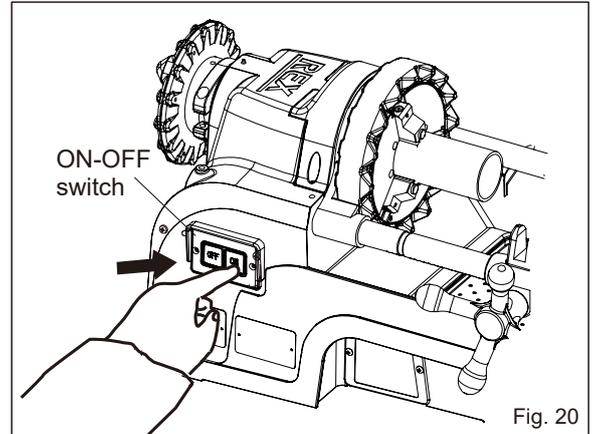
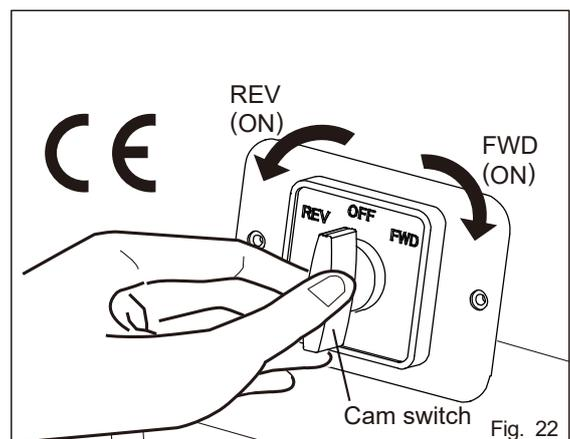

Fig. 20
Fig. 22
Turn on the machine to set the Main shaft in motion. (Fig. 20)
If the Cam switch is placed in the FWD position, the Hammer chuck will rotate in an anticlockwise direction (normal rotation) as seen from the Chuck. In the REV position, it rotates in a clockwise direction (reverse rotation). (Fig. 22)
- Switch the machine on (Fig. 20) or turn the Cam switch to the FWD position. (Fig. 22)